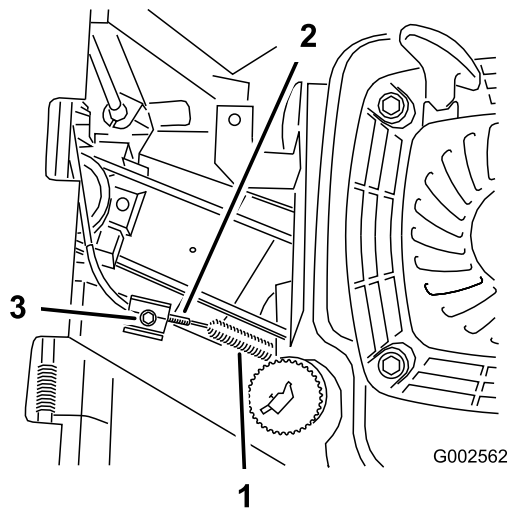

Figure 30
4. Loosen the cable clamp screw until the brake cable conduit slides (Figure 30).